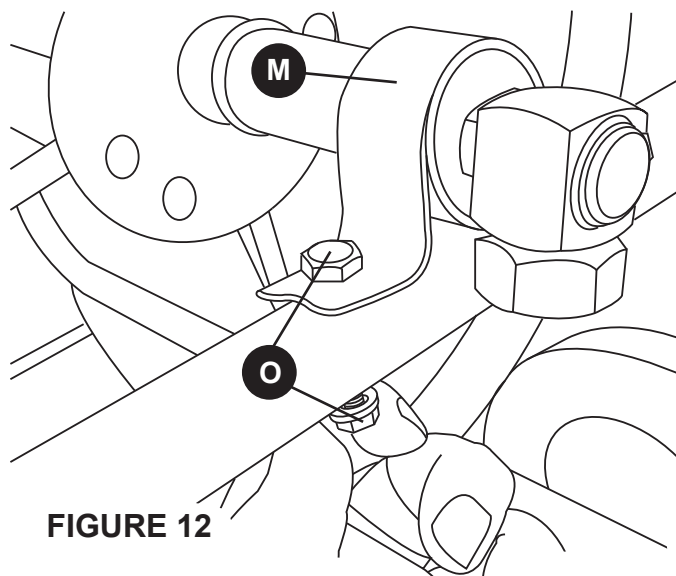

FIGURE 12
12. Insert two 40mm bolts and nuts (**O**) through the u-bushing on the water connection unit (**M**) at the u-handle end of the frame. Hand tighten. **See Figure 12**